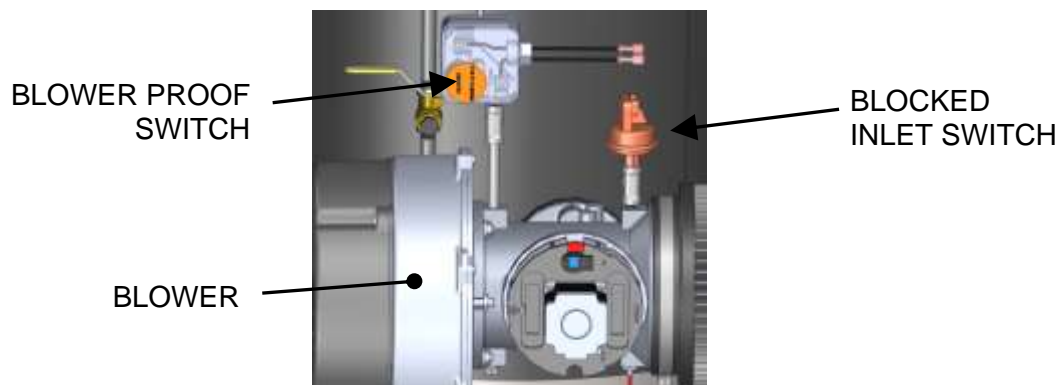

Figure 3.4-3: Blower Proof Switch
4. Next, the **Blower Proof** switch on the Air/Fuel Valve (Figure 3.4-3) closes. The display will show **Purging** and indicate the elapsed time of the purge cycle in seconds.